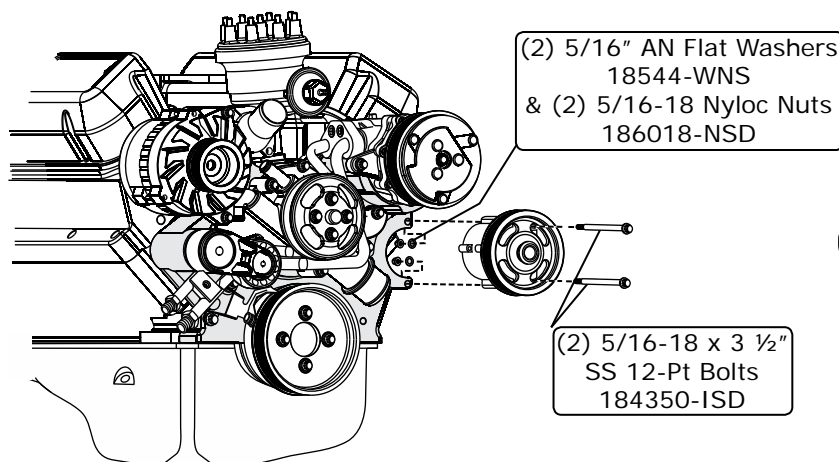

Figure 11
2. Install the power steering pump using (2) 5/16-18 x 3 1/2" SS 12-Pt bolts, (2) 5/16" AN flat washers and (2) 5/16-18 nyloc nuts as shown in Figure 11, below. Torque to 28 lb ft.